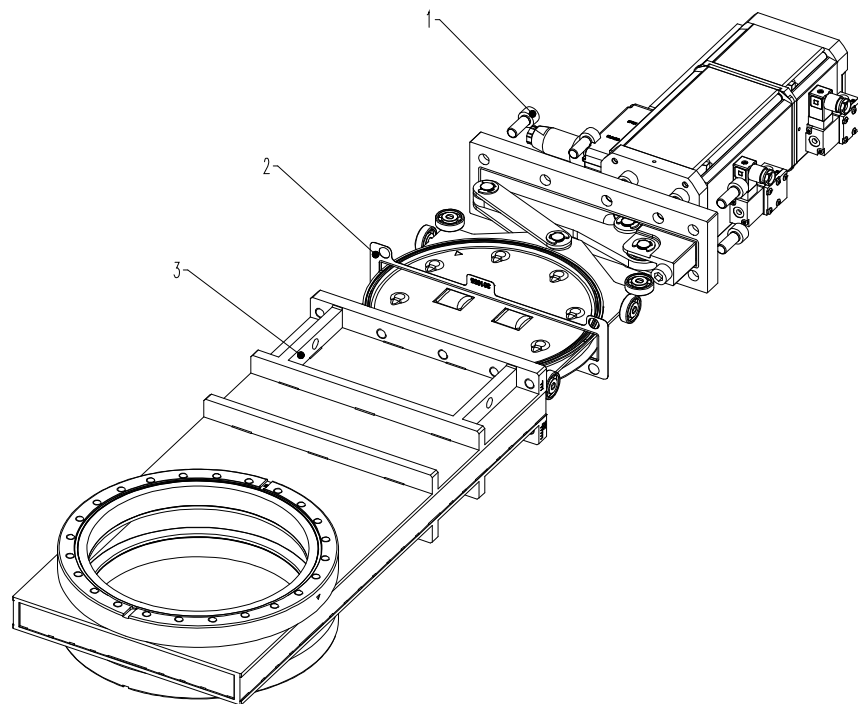

Figure 6-2
5. Remove screws (1) according to «Figure 6-2» on page 19.
6. Withdraw actuator / mechanism unit carefully from body without touching the body wall; see «Figure 6-2» on page 19.
21. Mount screws (1) according to «Figure 6-2» on page 19.